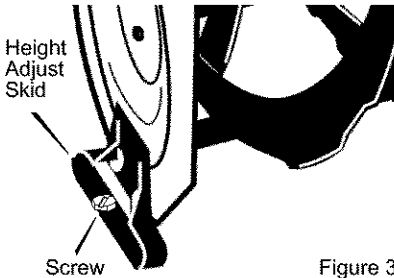

Figure 3
7. For shipping purposes, the **height adjust skids** are attached to the pallet. Remove the **screw** that secures each **height adjust skid** to the pallet. See Figure 3.